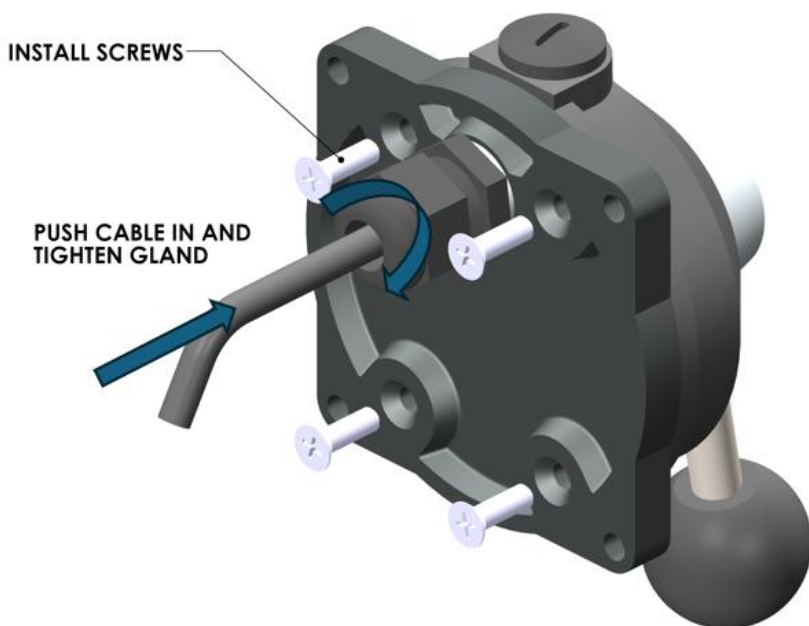

Figure 34: Replacing cover
39. Slide the cover back onto the housing positioning as shown in Figure 34.
41. Re-tighten the cable gland. For under dash models, ensure the cable is pushed into the housing when tightening the gland as shown in Figure 34.